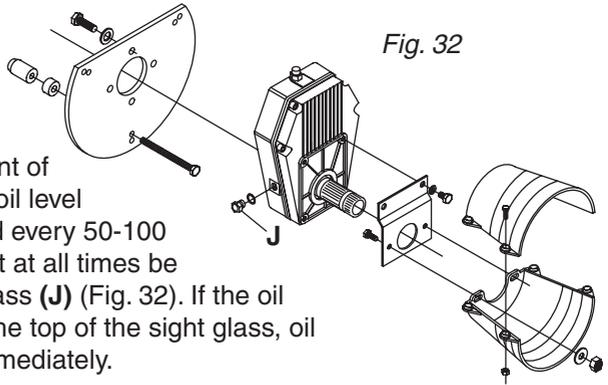

Fig. 32
The oil should be changed after the first 100 hours of use, and thereafter, every 1000 hrs. Use 1 pint of 15/40 HD oil. The oil level should be checked every 50-100 hours. The oil must at all times be above the sight glass (J) (Fig. 32). If the oil level goes below the top of the sight glass, oil must be added immediately.